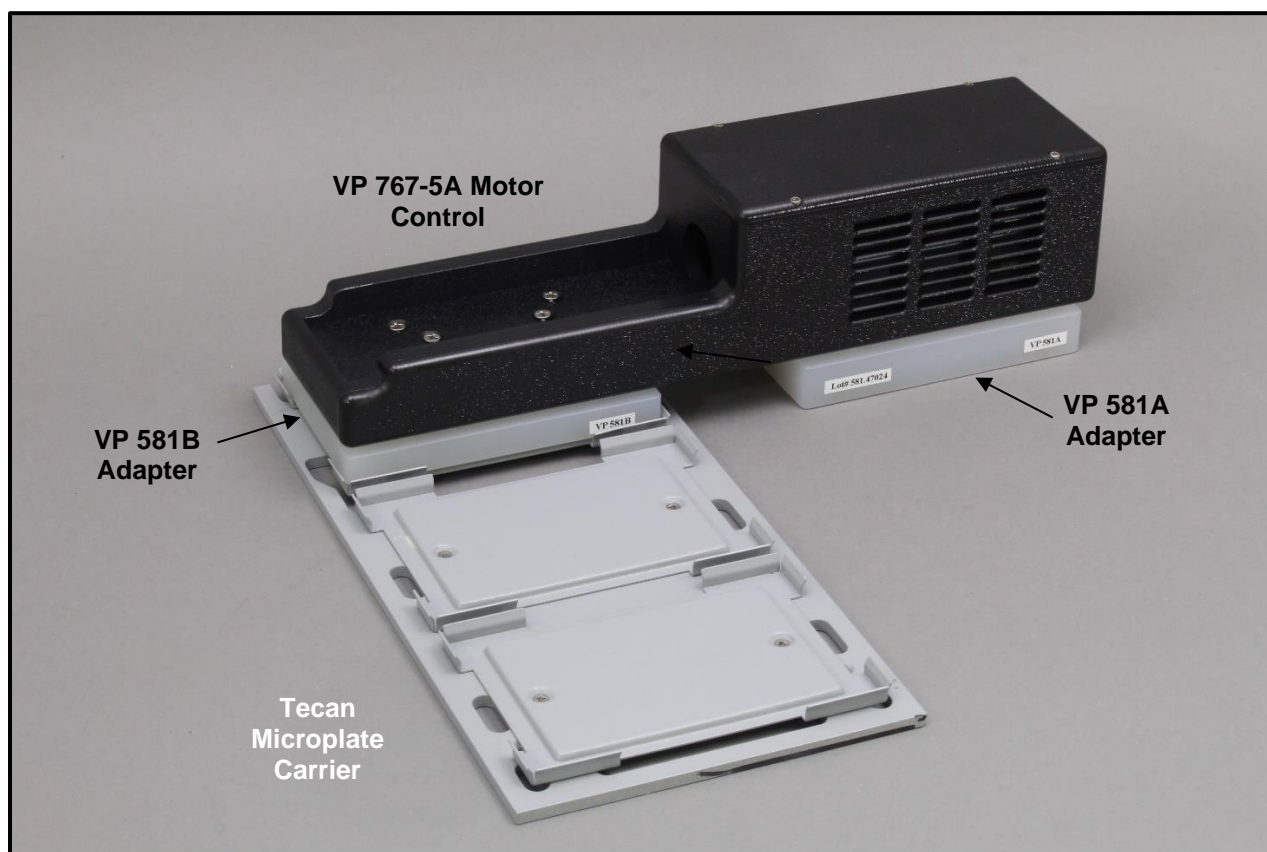

Figure 4. Bubble Paddle Reservoir positioned on a Tecan liquid handler microplate carrier using two polypropylene SLAS-sized adapters VP 581B and VP 581A.
- 3) Alternatively, if using a robot that uses a SLAS microplate holder, order the Bubble Paddle Reservoir system with a VP 581B, a polypropylene SLAS sized adapter. Place the VP 767-5A motor assembly with the attached VP 581B on the robot deck in a microplate holder (see Figure 4). Position the robot pipet tips as described above in step 2.